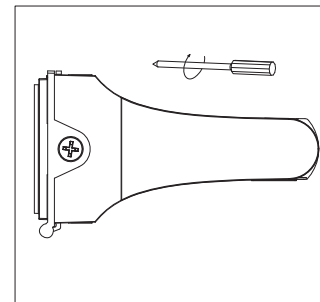
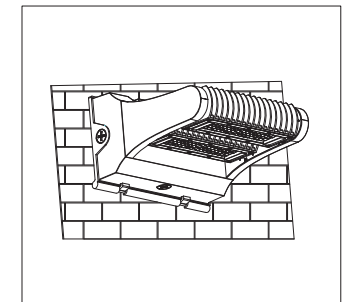

Figure 10
Figure 11
Step 7: Well organize the line and tighten the screws of the lamp base (Figure 10 & Figure 11) .